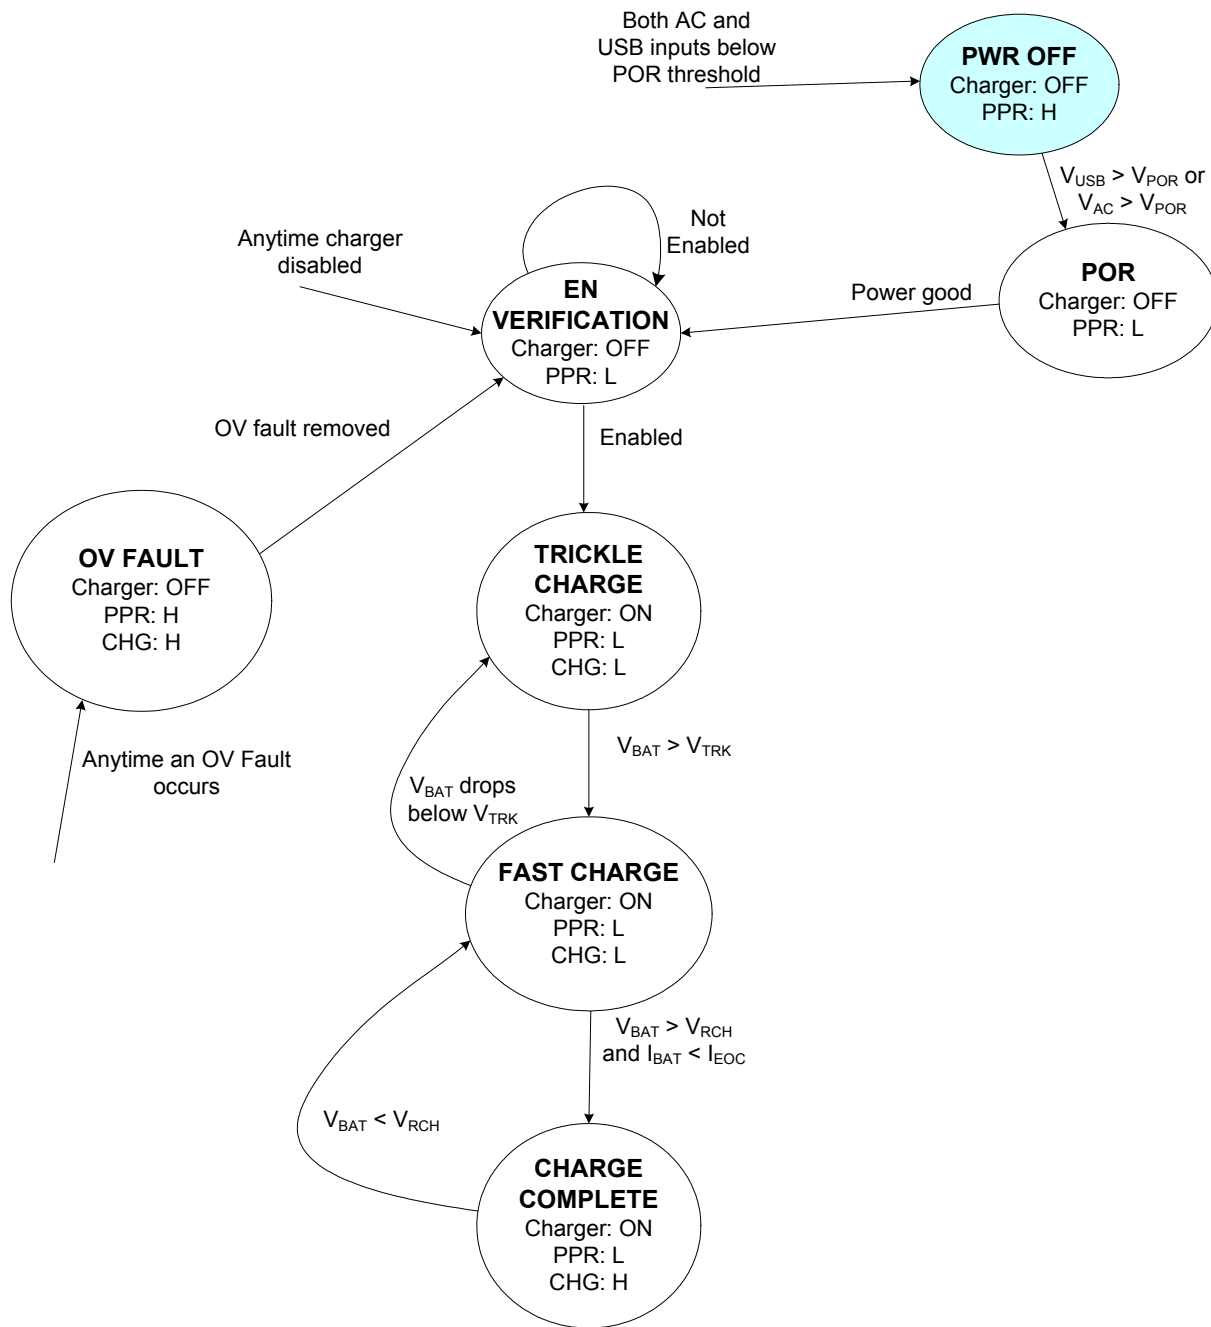

Figure 40. Charge Cycle State Diagram
The 34676 uses the standard charge profile with trickle mode, constant-current (CC) mode, and constant-voltage (CV) mode, as shown in Figure 37. Both the CC-mode and the CV-mode are called fast charge mode. Figure 40 shows the complete charge cycle state diagram.